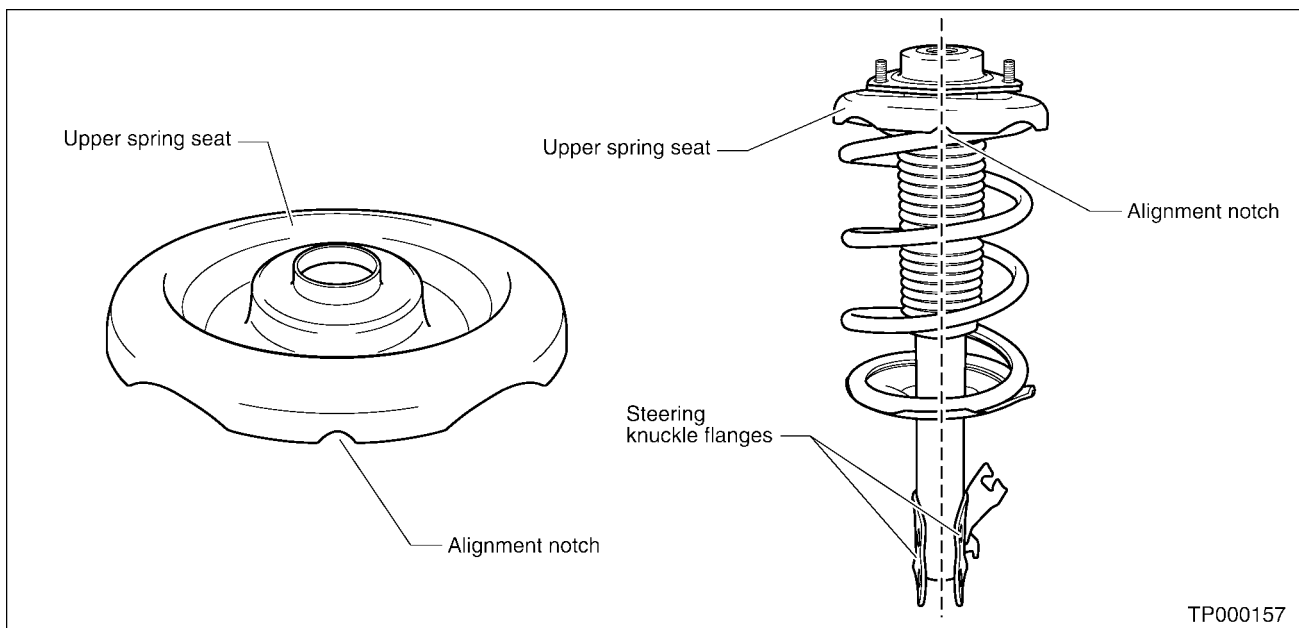

Figure 6
- C. During strut re-assembly, note the upper spring seat alignment. Make sure the "notch" in the upper spring seat is aligned as shown in Figure 6.